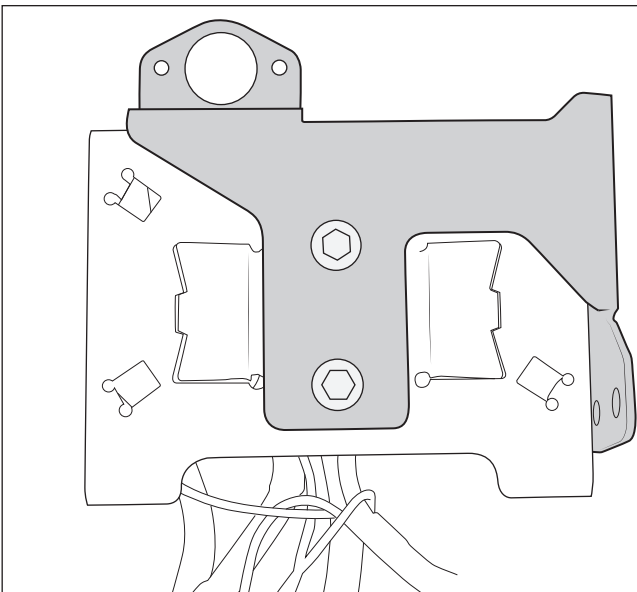

Figure 19
3. Bolt the solenoid pack to the new AEV bracket with the supplied m6 x 20 bolts, nuts, and washers. Install the bolts in the direction shown—through the bracket into the solenoid pack (fig. 19).